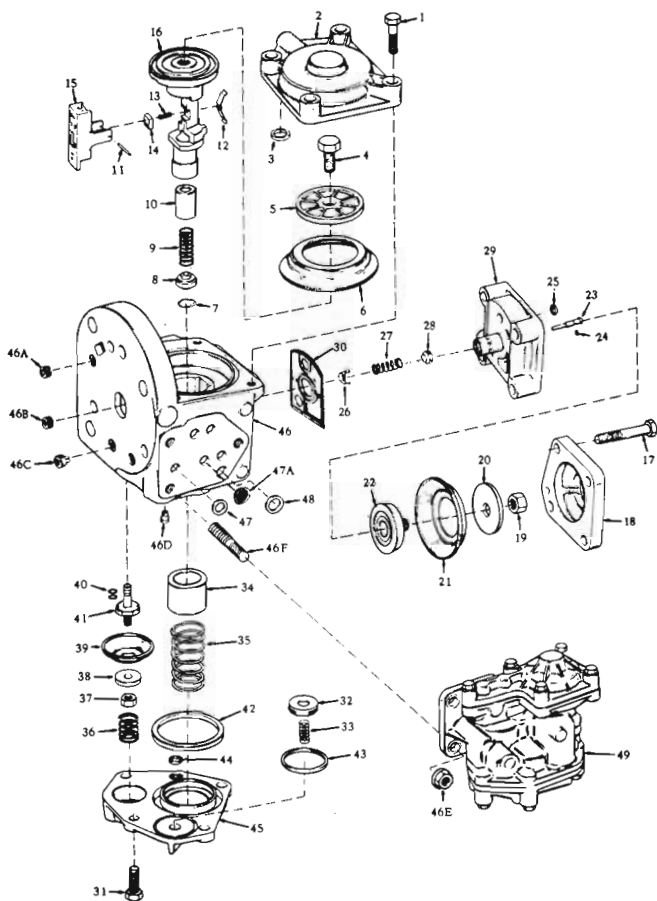

Figure 21
9.1 “ABD” Service Portion Parts (See Figure 21)